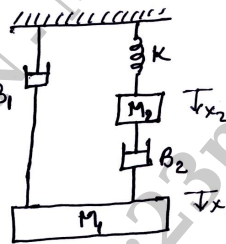

Fig.Q2(a)
- 2 a. Draw the equivalent mechanical system of the given system shown in Fig.Q2(a). Hence the set of equilibrium equations for it and obtain electrical analogous circuits using (i) F-V analogy (ii) F-I analogy.